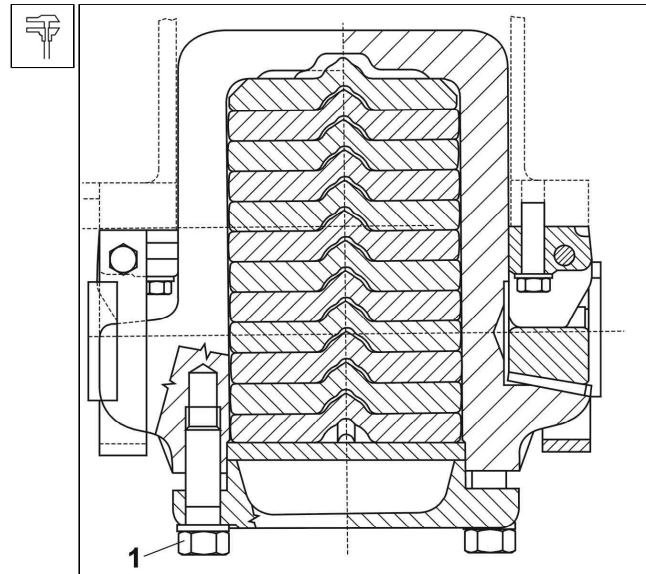

Fig. 8.3 Location of the leaf spring in the clip
1. The tightening torque for bolts **1** (See Fig. 8.3) fixing the leaf spring clip and the clamping washer must not be lower than **250 Nm**.